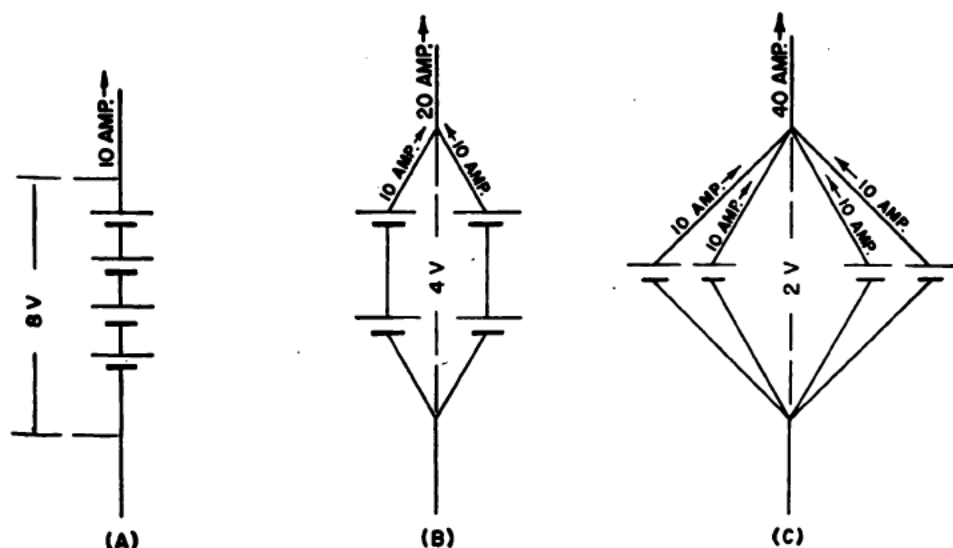

Figure 90.—Series, series-parallel, and parallel circuits.
Now use this battery illustration to explain armature conductors. In figure 90, four 2-volt batteries, with a current rating of 10 amperes each, are con-
nected in **SERIES**, **SERIES-PARALLEL**, and **PARALLEL**. In figure 90 (A) the four cells are connected in **SERIES**, giving a voltage of 8 volts and supplying a current of 10 amperes to the load. In figure 90 (B), the batteries are connected in **SERIES-PARALLEL**. Now the voltage will be 4 volts but there are two paths for the current to flow. The total current now being supplied to the load is 20 amperes. Each side of the series-parallel branch applies 10 amperes.
In figure 90 (C), the four batteries are connected in **PARALLEL**. Now the voltage is 2 volts but there are four paths for the current to flow. In this case the total current will be 40 amperes. But in each case there is a total power of 80 watts supplied to the external circuit. The power rating is independent of the manner in which the connections are made.